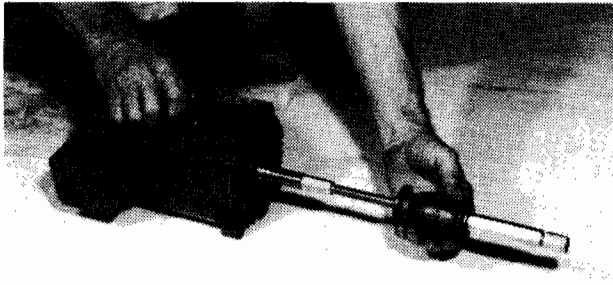

Figure 19
- 8. If necessary to remove pump shaft, use jack puller, Myers No. 10575B. (See Fig. 19).